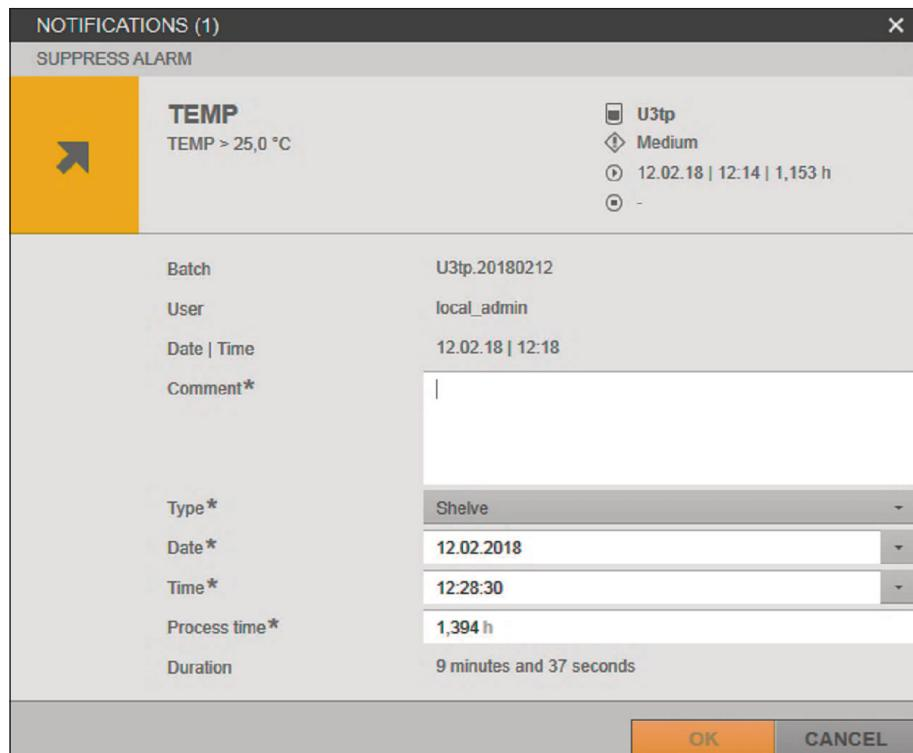

Fig. 6-11: [SUPPRESS ALARM]/[Shelve] input menu with parameter settings
- Set the parameters for the alarm suppression (see Fig. 6-11, 92).